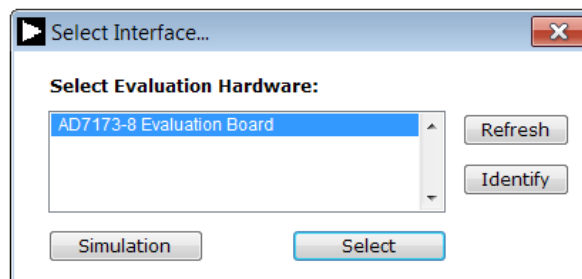
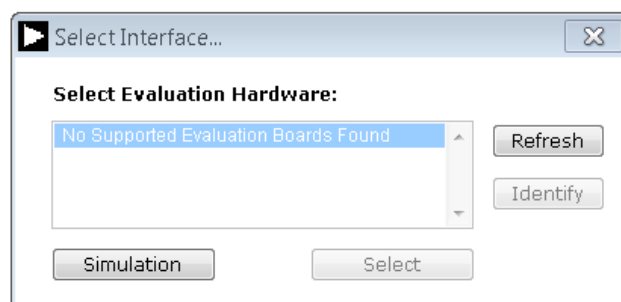
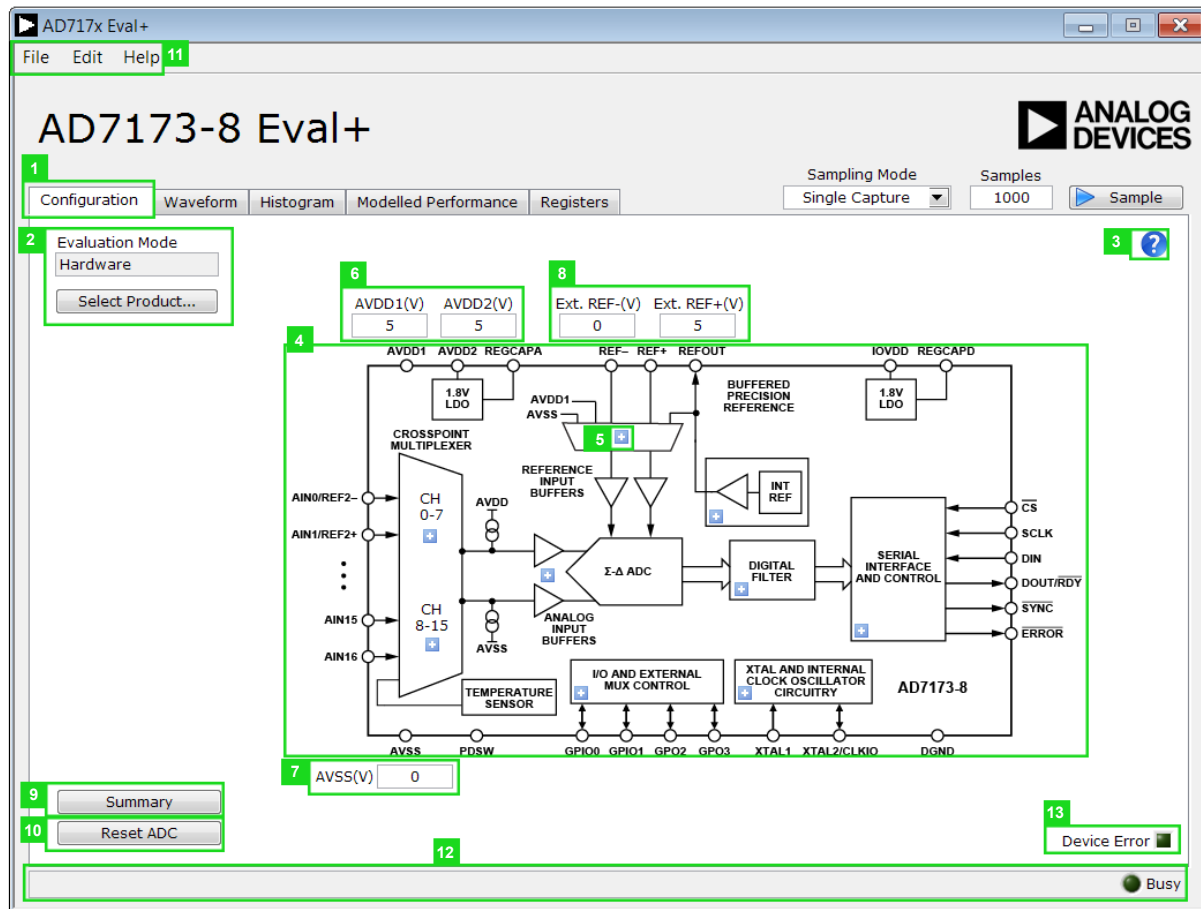
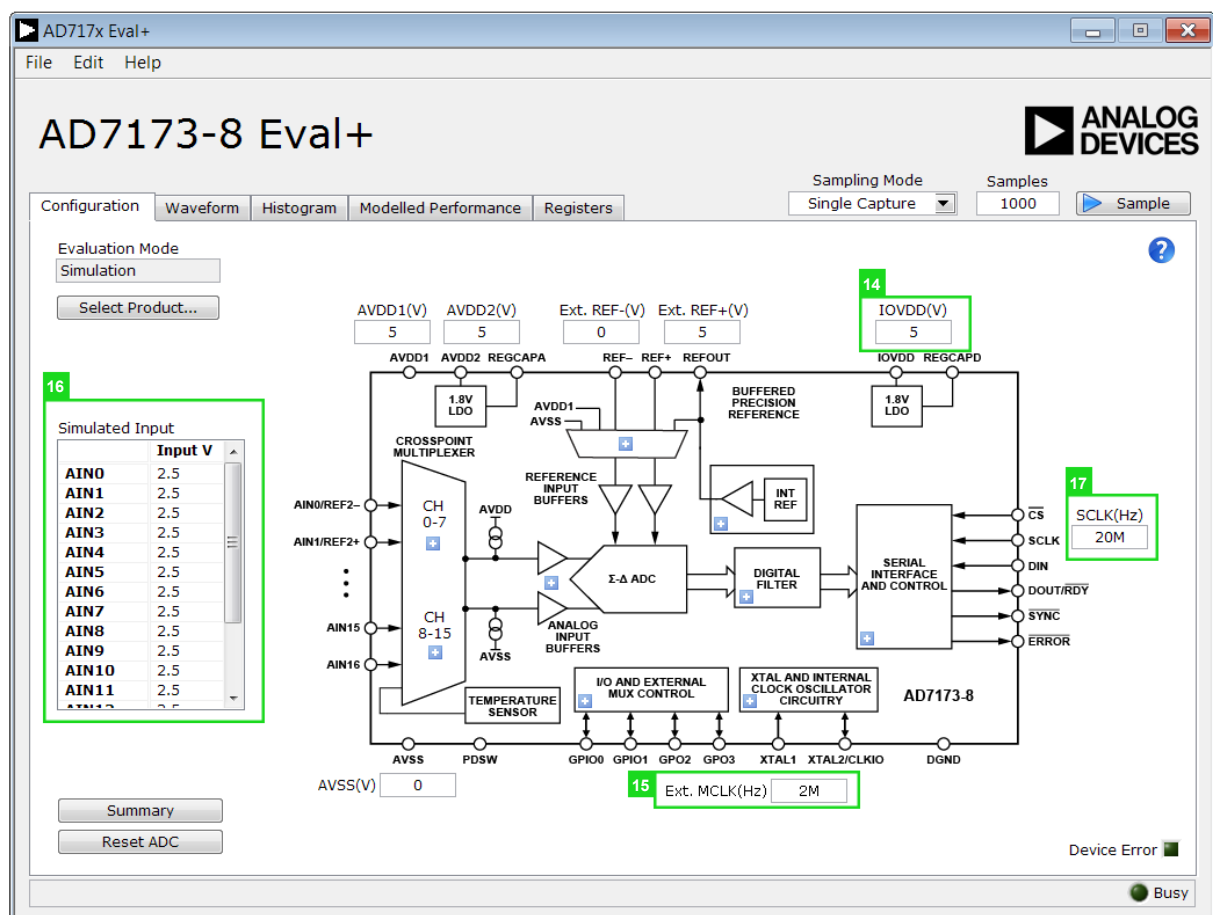

Figure 13. AD7173-8 Evaluation Board Selection
Figure 14. Evaluation Board Selection, No Board Connected
Figure 16. Configuration Tab of the AD7173-8 Eval+ Software in Hardware Mode
Figure 17. Configuration Tab of the AD7173-8 Eval+ Software in Simulation Mode
- The dialog box in Figure 13 appears, select **AD7173 Evaluation Board**. The main window of the software box displays as shown in Figure 16.
- If the **EVAL-AD7173-8SDZ** evaluation system is not connected to the USB port via the **SDP-B**, when the software is launched the **Select Interface** dialog box appears (see Figure 14). Connect the evaluation board to the USB port of the PC, wait a few seconds, click **Refresh** and the option shown in Figure 13 appears.
Figure 16 shows the Configuration tab when **Hardware Mode** is selected and Figure 17 shows the Configuration tab when **Simulation** mode is selected. The controls highlighted in Figure 17 are only available in **Simulation** mode.
The Evaluation Mode indicator displays the current evaluation mode. To switch between modes, click the **Select Product** button and the dialog box shown in Figure 13 appears.